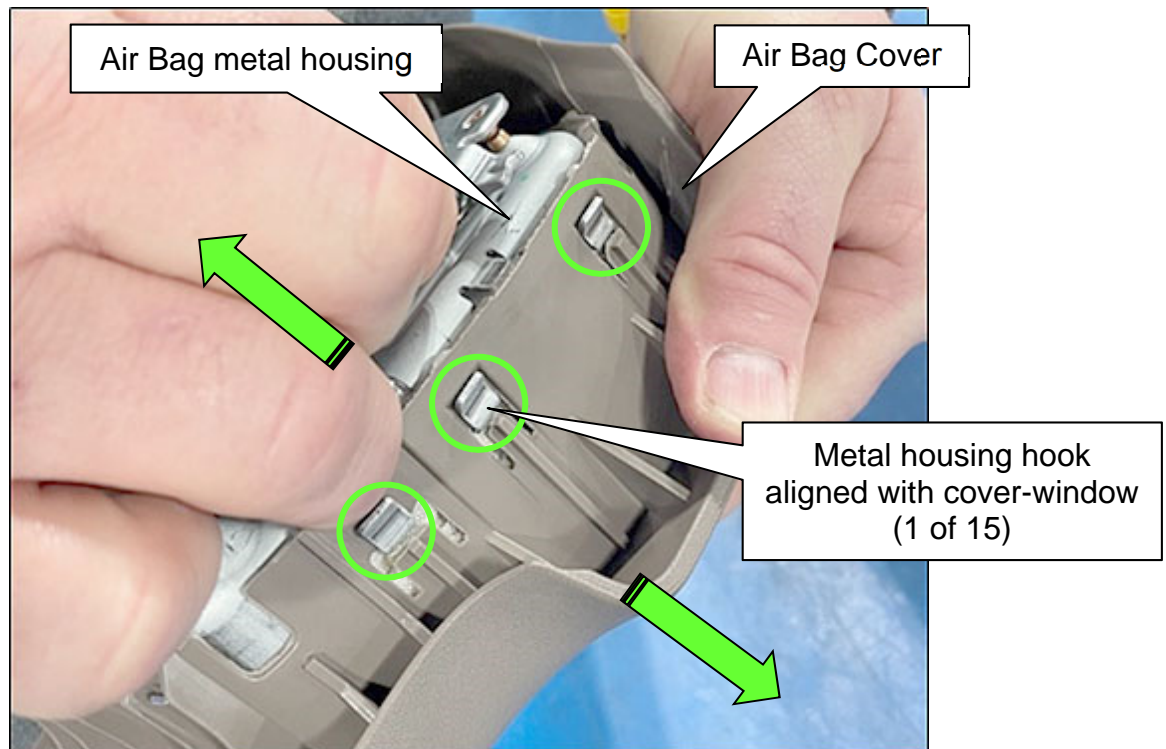

Figure 29
29. Verify that all fifteen (15) metal housing hooks are aligned and fully engaged into each associated cover-window.
30. Slowly pull the Air Bag metal housing and the Air Bag Cover apart (Figure 29) to lock all fifteen (15) metal housing hooks into each associated cover-window location.
- Three (3) metal housing hooks (Figure 29) shown with associated cover-window, for reference.